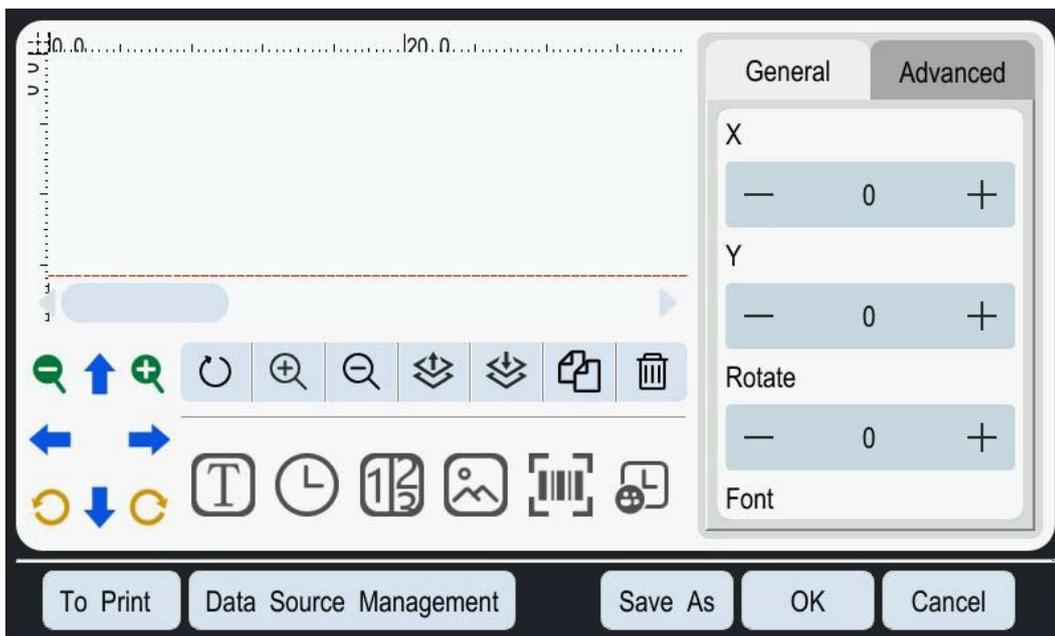

Figure 5-1: Edit File Interface
1. Click the Create File button  **Create File** on the main interface. The system enters the file editing interface, as shown in Figure 5-1. In this interface, you can input the required information according to your needs.
2. Click the  button to enter the file editing interface. As shown in Figure 5-1, edit the content and save the file according to the operations from item 2 to item 4 in Section 5.1.1.